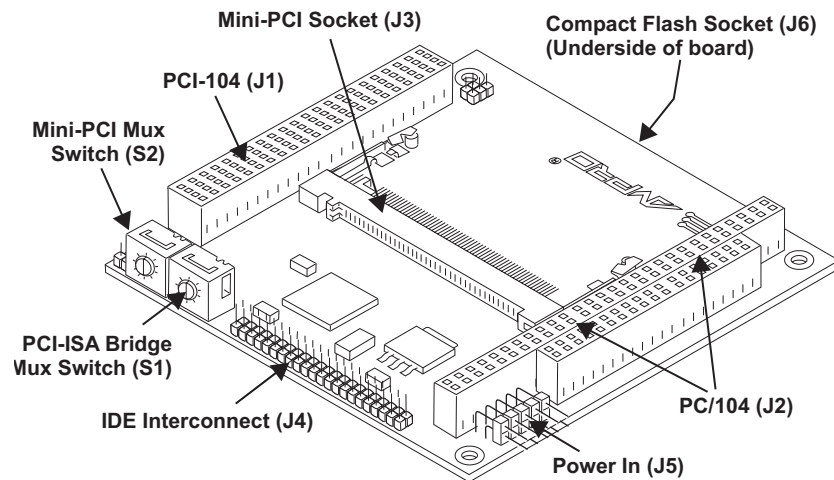

Figure 2-3. MiniModule ISA
17. Set the Device ID in the stack, if known.	The Device ID Select switch (S1) is used to configure the PCI position of MiniModule ISA in the board stack. Refer to Figure 2-3 , Table 2-1 , and Table on page 26 for more information.